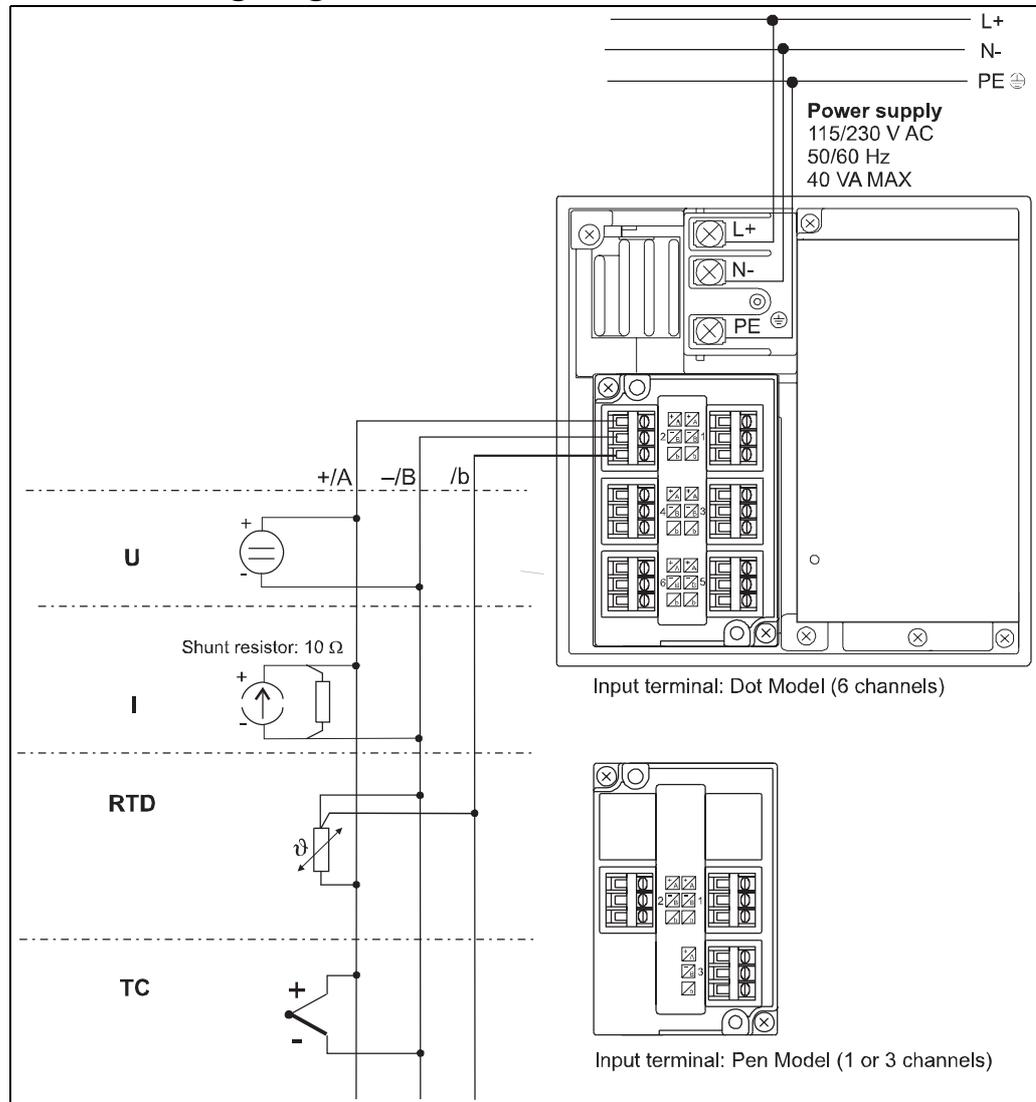

fig. 7: Wiring overview
2. Connect the signal wires to the terminals (→ Fig. 7).